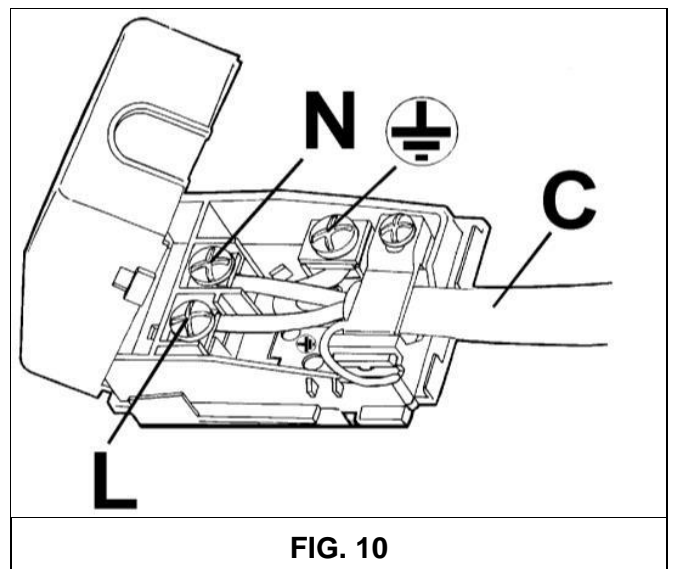

FIG. 10
- If no plug is installed on power cable C (see Fig. 10), install a standard plug that corresponds to the load given on the factory label. Connect the cable according to the diagram in Fig. 10. Make sure to follow these rules: